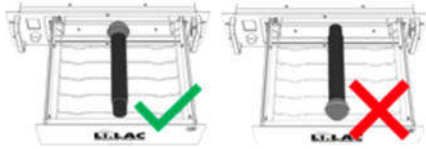

Fig. 3a
- Place microphones inside drawer with the head of the microphone facing the marking (Fig. 3a and 3b).